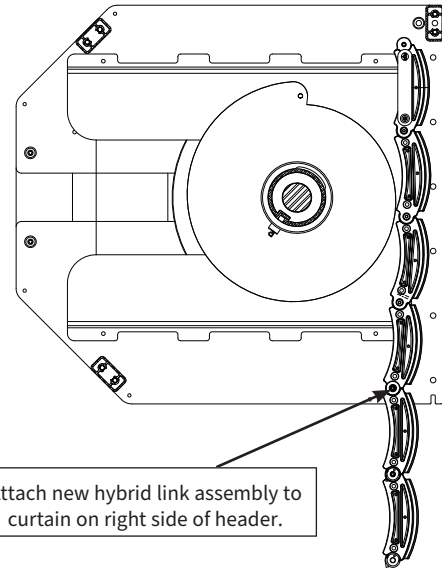

Figure 12: Hybrid Link Assembly, Right Side of Header
- 1 Referring to (Figure 12), use the hole drilled through header in last step to attach the new hybrid link assembly to the top link of the curtain on the right side of the header. Use a 5/16" x 3/4" shoulder screw 41A1056 to join the links. Shoulder screw must be greased with a silicone lubricant.